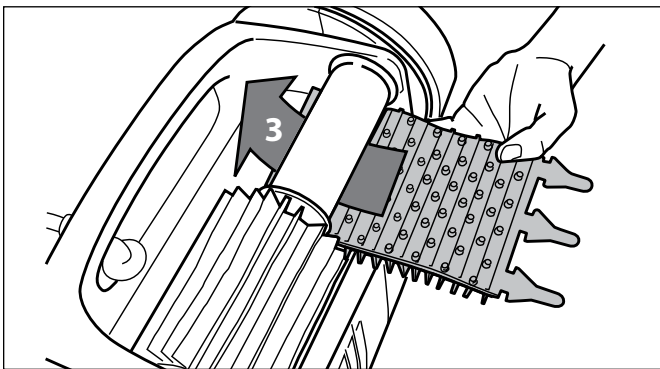

Figure 32. Install the New Brush
- To install a new brush, position the new brush on the roller with the spikes facing downwards (Figure 32).